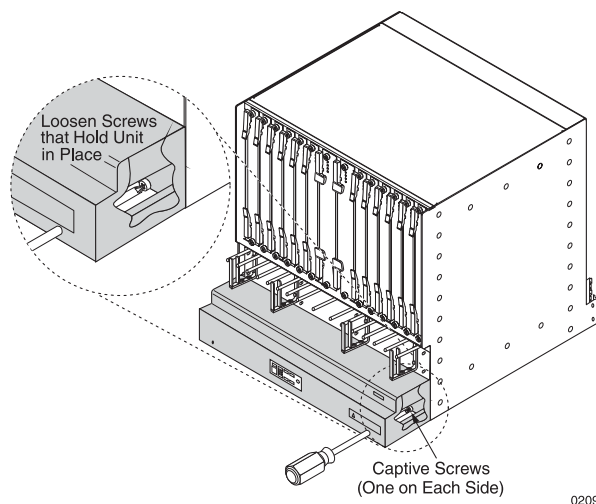

Figure 35 Replacing the Fan and Alarm Unit
If you are replacing the fan and alarm unit in a SmartEdge 800s or the SmartEdge Network Equipment Building Standards (NEBS)-compliant chassis, you must install a NEBS-compliant fan and alarm unit; only the SmartEdge 800e chassis supports either an enhanced or a NEBS-compliant fan and alarm unit. Figure 35 illustrates the SmartEdge 800 chassis with the NEBS-compliant fan and alarm unit.
2. Remove the unit; see Figure 35